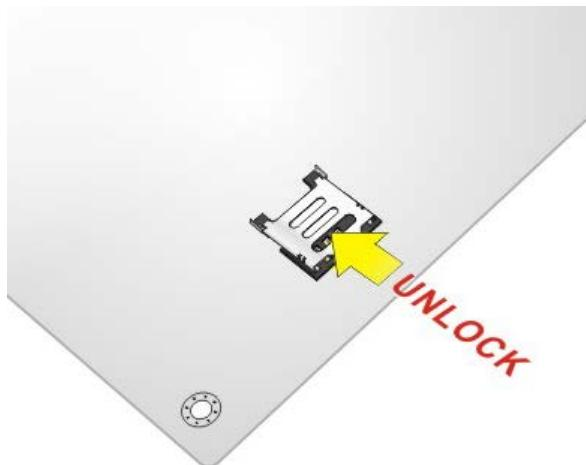

Figure 4-9: Unlock SIM Card Slot Cover
Step 2: Unlock the SIM card slot cover by sliding the cover in the direction as shown by the arrow in **Figure 4-9**.